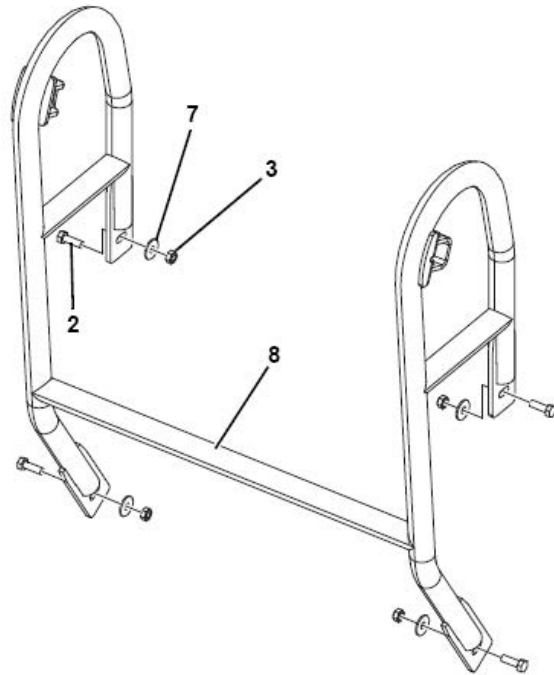

Figure 4-25.
1. Install the SkyGuard Support Bracket (8) onto the welded mounts on platform rails. Secure the support bracket using four Bolts (2), relevant Washers (7) and Nuts (3). See Figure 4-25.